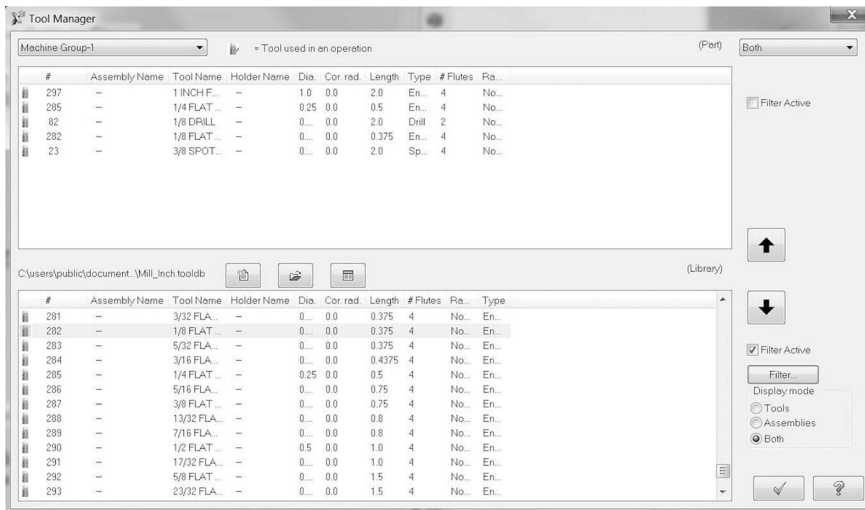

Figure 5-42 Mill Example Tool Manager
5. From the Menu Bar select **TOOLPATHS**—Tool Manager. Set the filters to minimize the displayed tools and press OK. From the library list, select each tool determined (based on the part geometry) and double-click to add to the used list (see Figure 5-42).